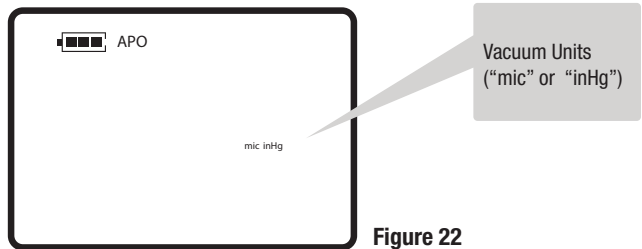

Figure 22
- 5) Press **SET** to advance to **Vacuum Units Screen** (blinking) (**FIG. 22**).